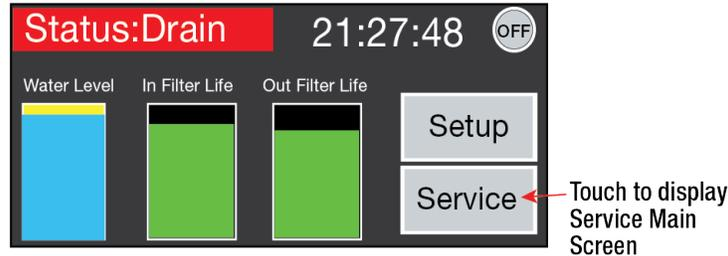
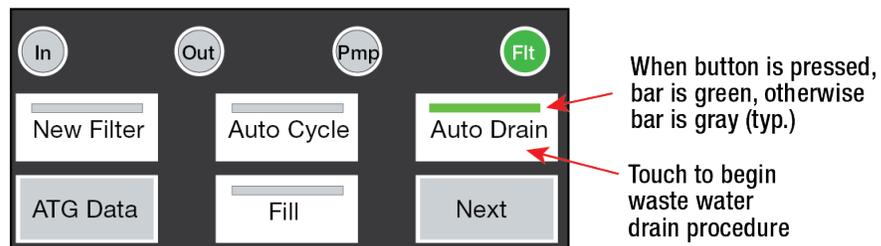

Figure 6. FCC Home Screen
Figure 7. FCC Service Screen
1. At the Fuel Conditioning Controller Home screen (see Figure 6), touch the **Service** button to open the FCC Service Home screen (see Figure 7).